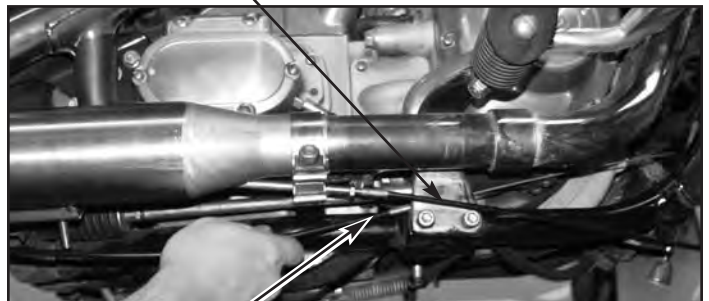

Figure 7
3. Install Rear Muffler / Route Cable. **Figure 7.**